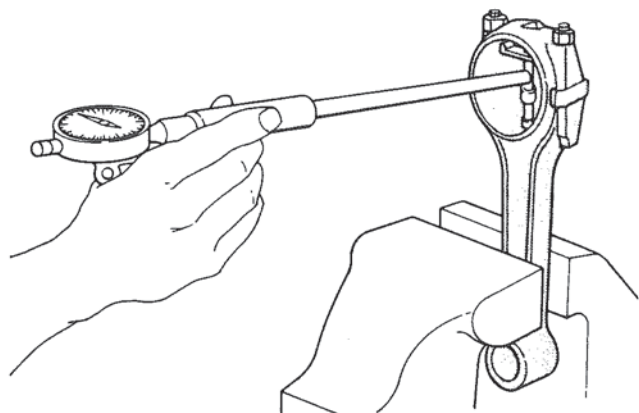

Figure 39. Measuring Inner Diameter of Connecting Rod Bearing.
3. Measure I.D. of bearing. Figure 39.